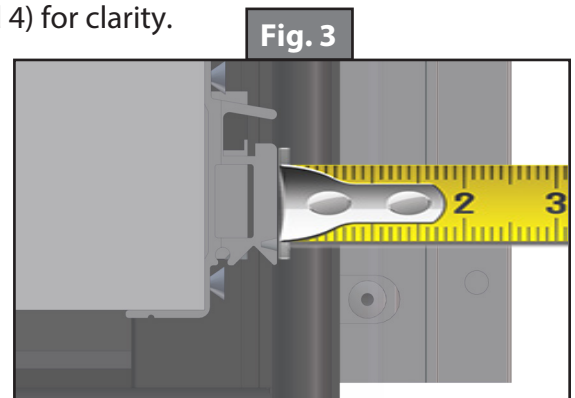

Fig. 3
6. Measure from the outside edge of the column to the face of the gear rack (Figs. 3 and 4).
NOTE: Slide box T-molding has been removed from (Figs. 3 and 4) for clarity.